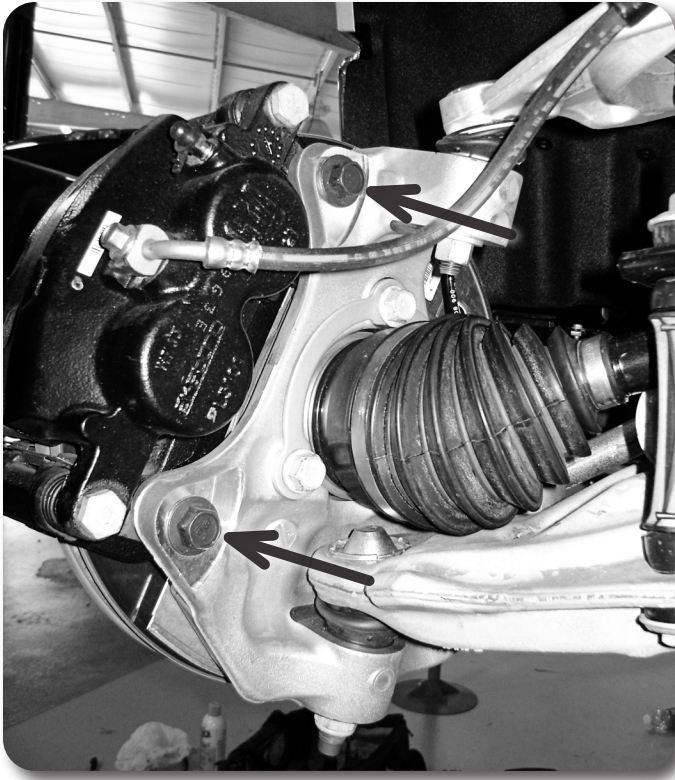

Figure 4
7. Remove the two brake caliper mount bolts and remove the caliper assembly from the knuckle **Figure 4**. Hang the caliper securely out of the way. **DO NOT** hang the caliper by the brake hose. Save caliper bolts.